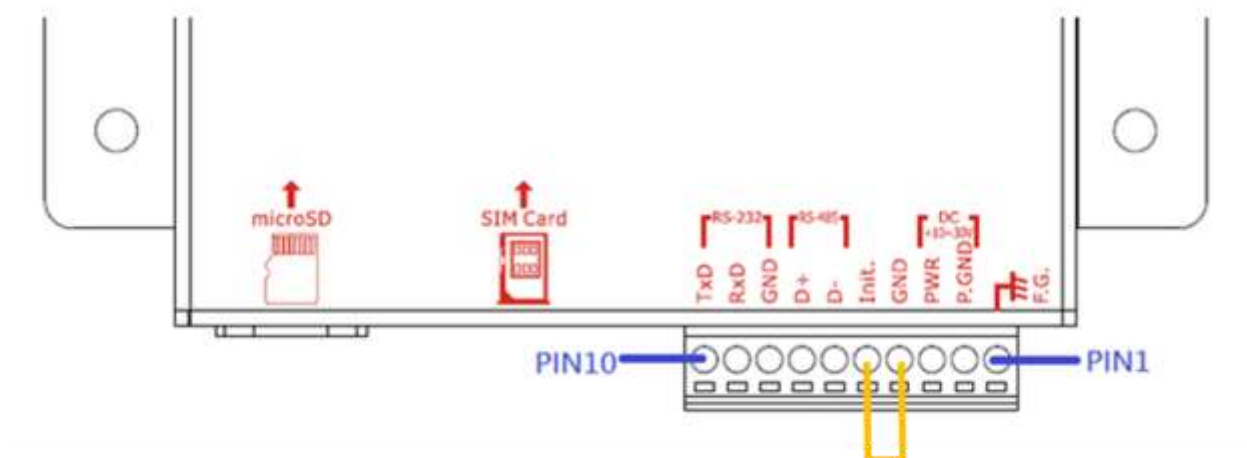

Figure 11.2.2
2. Connect the Init. pin to the GND pin, connect RS-232, and power on GTP-541M, as shown in Figure 11.2.2.